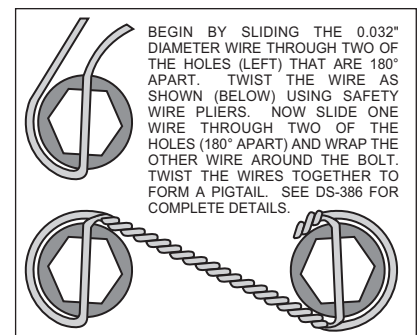

Figure 3. Safety Wire Diagram
•The caliper mounting bracket (1) should be installed first with clean, dry threads on the mounting bolts. Install the bracket (1) on the outboard side of the stock bracket by sliding bolt (2) from the inboard side of the hub assembly through washer (3) and the sleeve (4) which is inserted inside the existing OEM caliper mounting holes. Place two shim washers (16) between the hub and the caliper mounting bracket (1). The mounting bracket (1) must tighten squarely against the outboard side of the stock bracket face. Inspect for interference from casting irregularities, machining ridges, burrs, etc. Use two shims (16) between the mounting bracket (1) and stock bracket during initial trial fitting.
•With the larger I.D. side of the rotor (6) facing away from the hat (7), bolt rotor (6) to hat (7) through the backside of the rotor using washers (8), and bolts (9). Be sure all bolts thread in smoothly and are snug. Then, torque all bolts in an alternating sequence to 103 **in-lbs**. The rotor mounting bolts (9) must be lockwired using standard 0.032 inch diameter stainless steel safety wire as shown in Figure 3. Please refer to Wilwood's data sheet DS-386 (available at www.wilwood.com/Pdf/DataSheets/ds386.pdf) for complete safety wire installation instructions.
•Slide the brake pads (15) up into the caliper (10) from the bottom until the "v" spring clip snaps into place against the anvil. They should install easily without interference.
•Lubricate caliper mounting studs and nuts with lightweight oil. Install two shims (14) over each stud (13) on the radial mount bracket (2). Slide the caliper (10) in place over the studs and rotor and install the washer (12) and lock nut (11) to hold the caliper in place. The caliper bleed screw should be pointing toward the rear of the vehicle. Snug the lock nuts (11) and check that the caliper (10) is centered over the rotor (6). Add or subtract .016" shims (5) and/or .030 shims (16) as necessary between the caliper mounting bracket (1) and the stock bracket to center the caliper (10) on the rotor (6).
•Check that the outside radius of the brake pad (15) is aligned with the outside diameter radius of the rotor face. Add or subtract shims (14) between the caliper (10) and caliper mounting bracket (1) to gain the proper alignment.
•Once all clearances have been checked, remove the wheel, caliper and rotor from the axle flange. Secure the caliper mounting bracket (1) to the spindle face while applying red *Loctite*® 271 on the bolt threads (2). Torque the bolts (2) to 35 ft-lbs.. Reinstall the rotor and again use several lug nuts to hold it in place. Reinstall the caliper, torque the caliper nuts (11) to 30 ft-lbs.